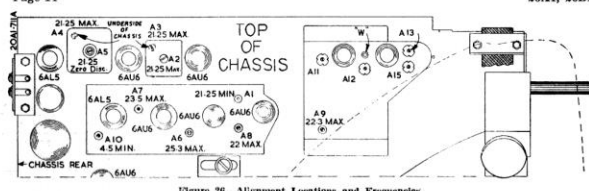

Figure 26. Alignment Locations and Frequencies.
- Connect oscilloscope through 10,000 ohm resistor to point "X" (figure 26). Keep oscilloscope leads away from chassis.
- Refer to figures 26 and 27 for alignment adjustment and test point locations.